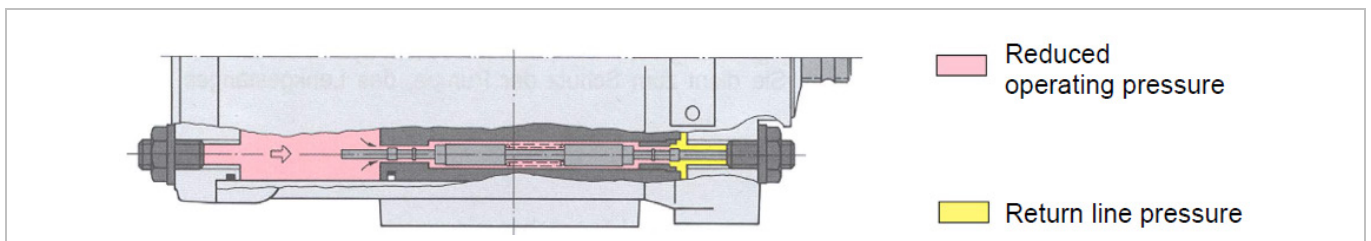

Fig. 5: Piston displacement to the right. Right-hand valve pin open. Oil pressure greatly reduced.
If for instance the piston is displaced to the right (Fig. 5), the right-hand valve pin will hit against the adjusting screw (X) before the piston end position is reached. Valve pin (U) is displaced by the oil pressure so that the oil can flow away from cylinder chamber (W) to cylinder chamber (V) and from there to the return line. When the piston is displaced to the left, the same sequence of operations as described above will take place by analogy.